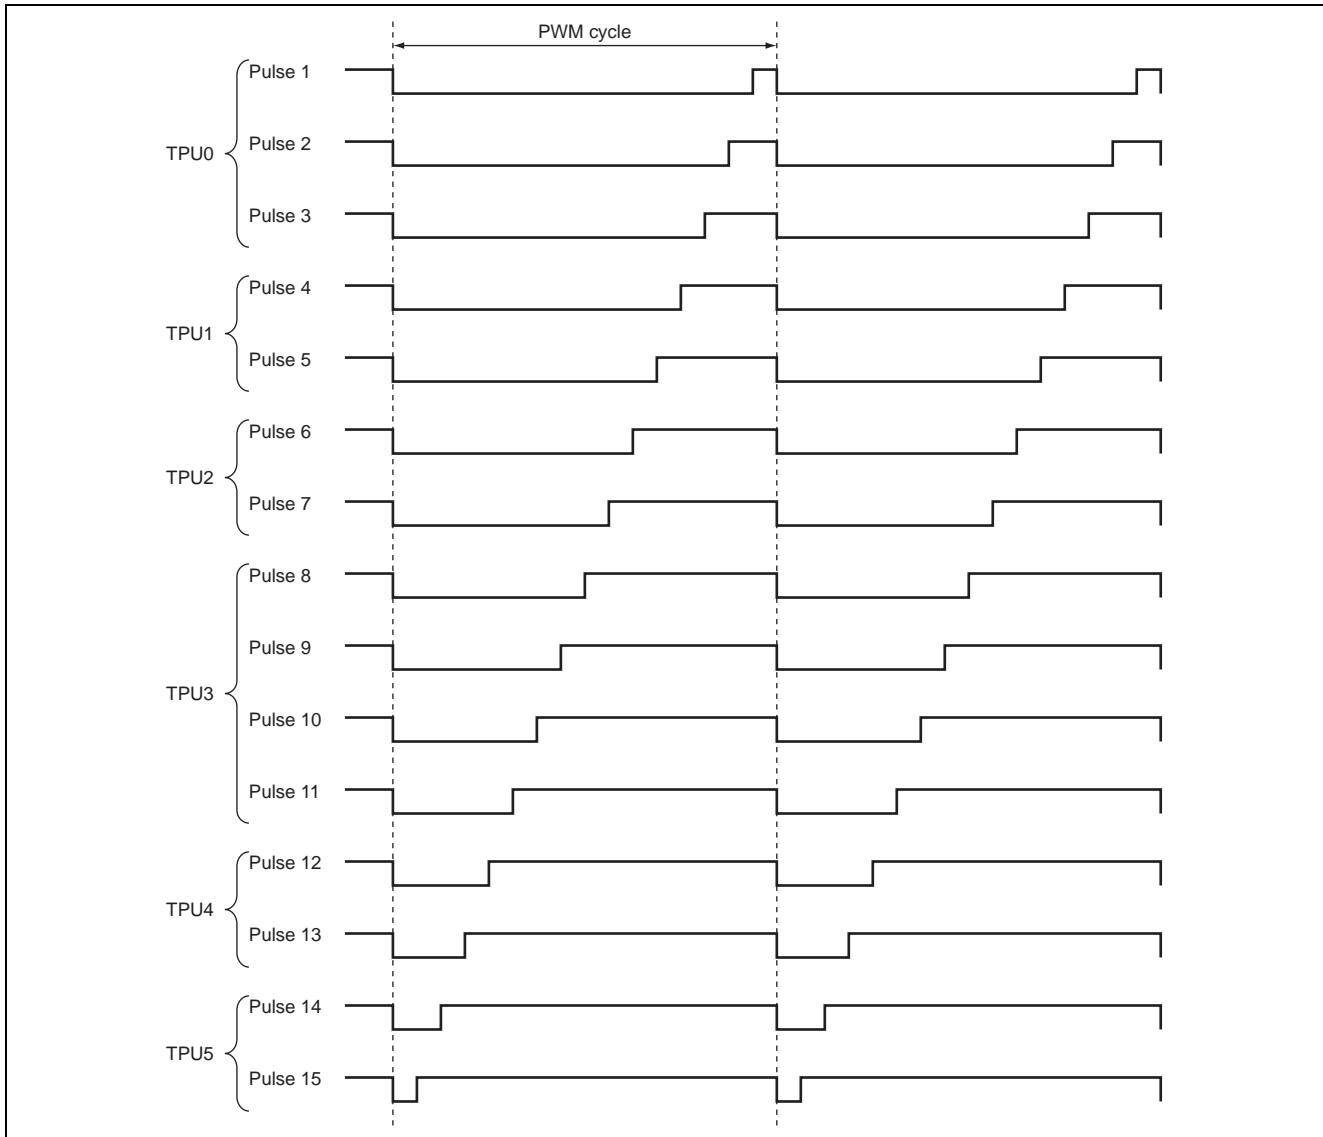

Figure 1 Example of PWM-Waveform Output
- (1) Outputs 15-phase PWM waveforms with variable duty cycles, as shown in figure 1.
- (2) In operation at 19.6608 MHz, the period of the output PWM signal can be set to any desired value from about 50.86 ns to 3.33 ms by the value set in pwm_cyc.